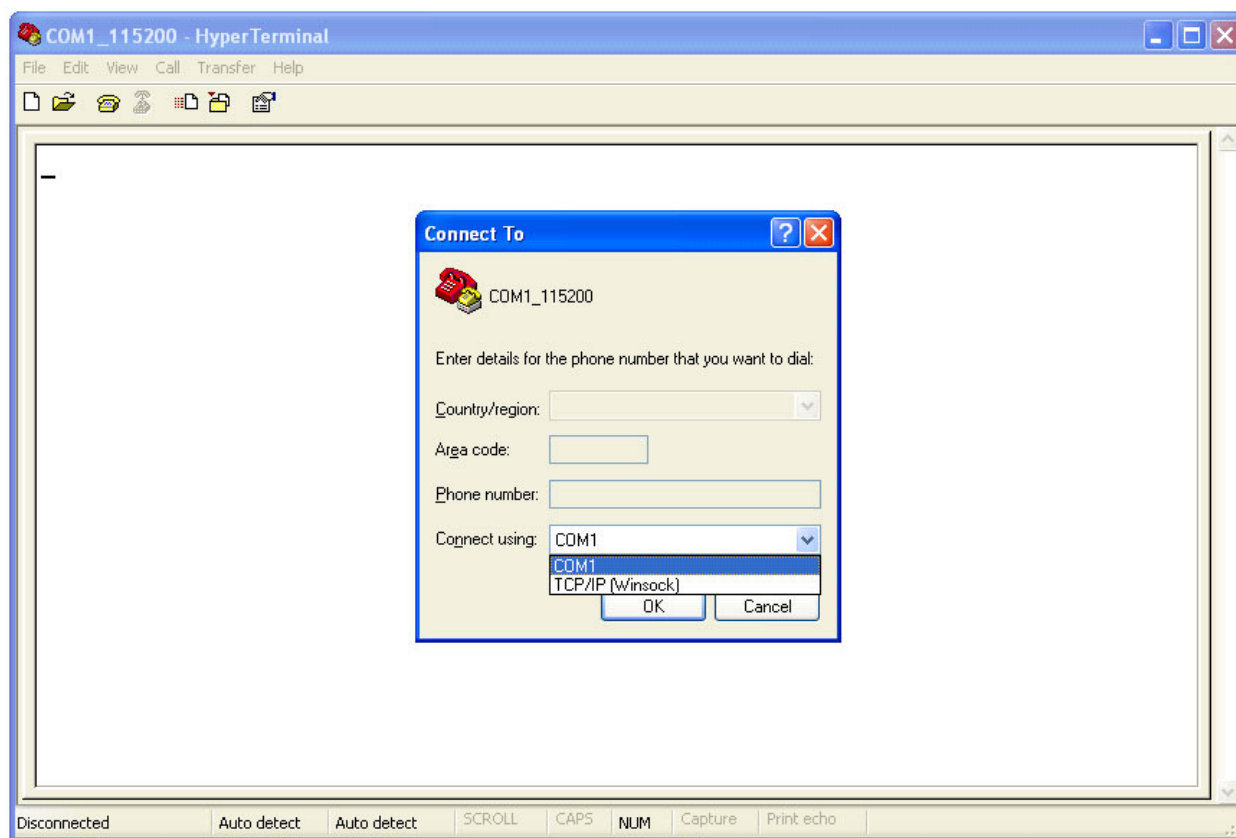

Figure A-11. Connect using COM1
3. The window appears as shown in the Figure A-11. Select the COM port identical to the one that shows up on the device manager.